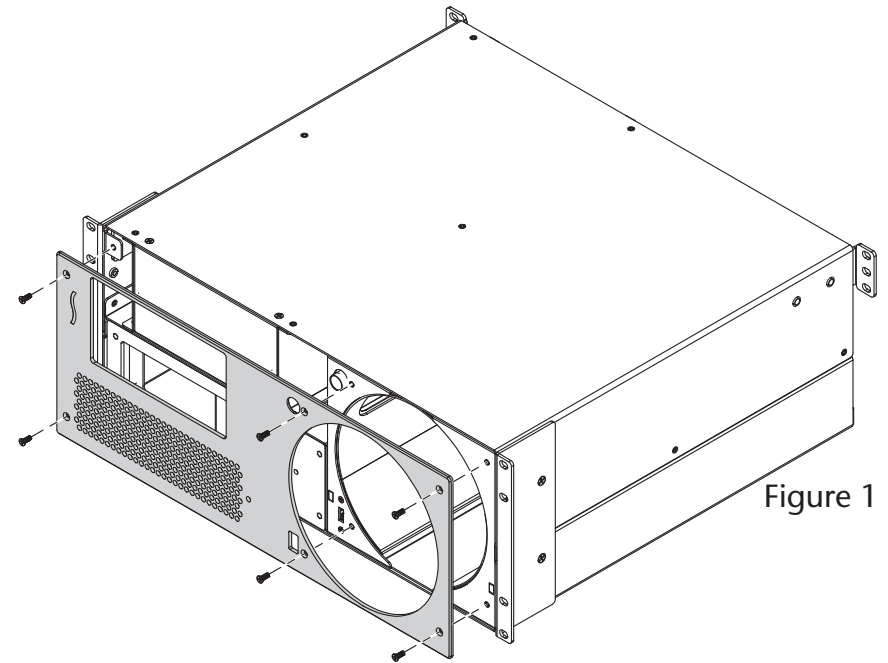

Figure 1
2. Using a Phillips screwdriver, remove and set aside the six screws securing the front panel to the rackmount enclosure, being careful to prevent the front panel from falling off (Figure 1). Set aside the front panel.